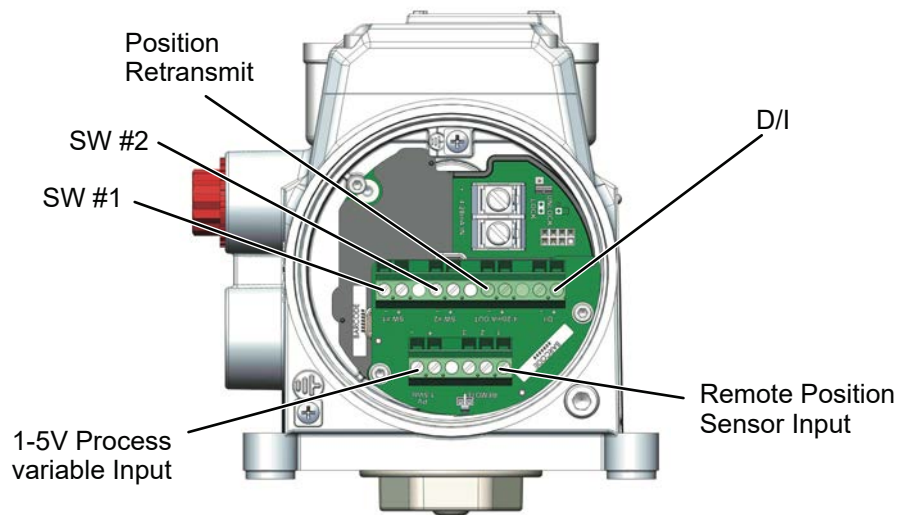

Figure 18 - Connections to Options Electronics Module (via Terminal Board)
3. Locate the correct terminal block on the Options Module (see Figure 18).